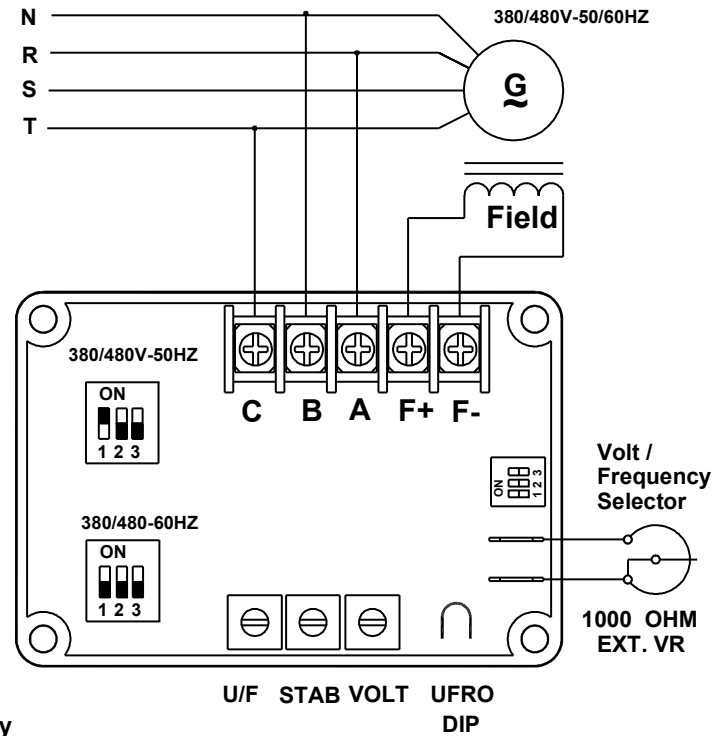

Fig. 4
2. But when the voltage of the generator is 380V, 480V, the power input terminals B, C and sensing terminals A, C are connected separately (as show in Figure 4 or figure 5). Power inputs B and C must never go over 300 VAC.